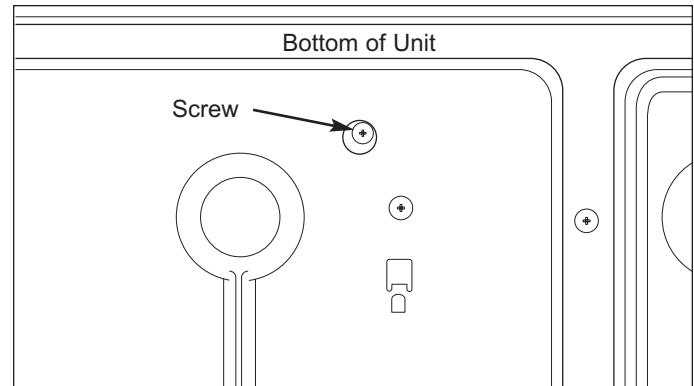

Figure 4-15. Auto Drawer Gear Screw Removal
5. Remove the bottom screw from below the auto drawer gear (See Figure 4-15).